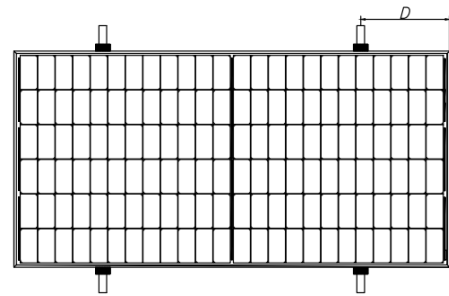
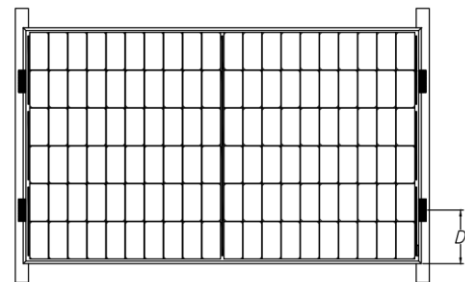
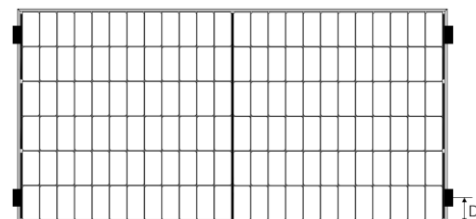

Fig. 9 Rails vertical to the long-side frame
Fig. 10 Rails overlapping the short-side frame
Fig. 11 Four clamp mounting on short side of frame
Photovoltaic modules can be installed across the support frame (Fig. 9) or parallel to the frame of the photovoltaic module (Fig. 10). PV modules can also be installed with four fulcrums (Fig. 11). When using clamps to install, each module must be secured with a minimum of 4 clamps.
⑧ For the mounting shown in Figure 10, the overlap between the C surface of the module and the rail should be $\geq 25\text{mm}$. Astronergy's limited warranty will be void if improper clamps or improper installation is used.